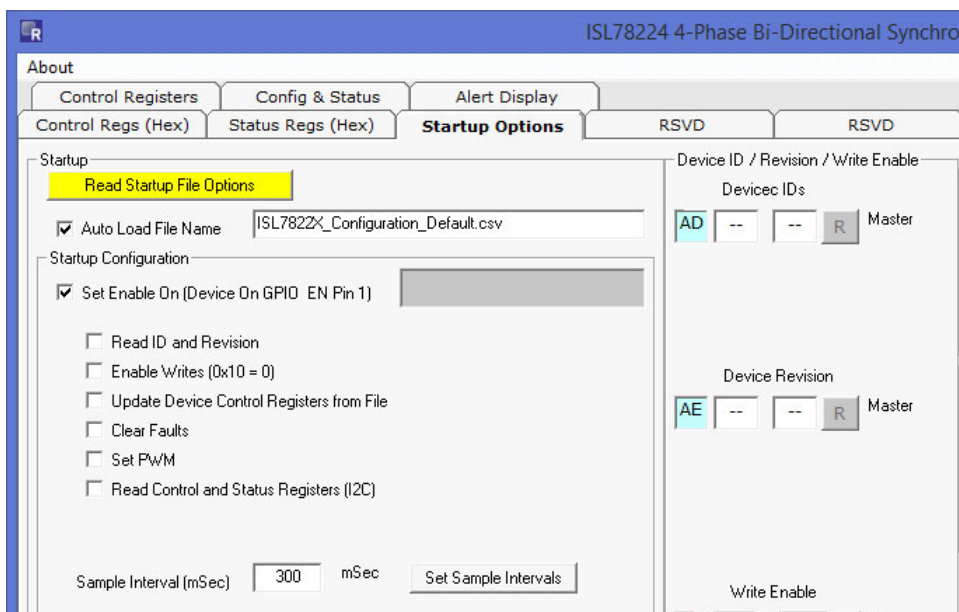

Figure 22. Read Startup File Options
- (9) To automatically start the converter, click the **Read Startup Files Options** button shown in Figure 22. This loads the startup.csv file in the project directory that specifies startup options that set initial device settings. **Note:** You can manually edit the file.